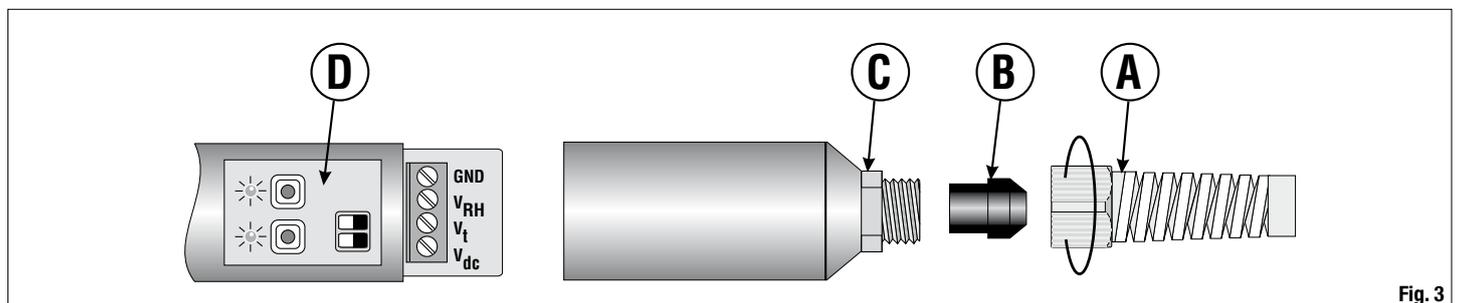

Fig. 3
Follow these procedures to access the transmitter terminal board (see fig.3): Unscrew grommet “A”, take off rubber bulb “B” and unscrew bottom “C”. Insert the cable through A, B and C elements and connect it to the terminal board. Hold the cable firmly while screwing grommet “A” to avoid twisting.
- To access the panel board, unscrew grommet “A” (see fig. 3) and hold the cable firmly to avoid twisting. Take off the rubber bulb and unscrew the bottom of the instrument.
- To access the panel board, unscrew grommet “A” (see figure 3) and hold the cable firmly to avoid twisting. Take the rubber bulb off and unscrew the bottom of the instrument.